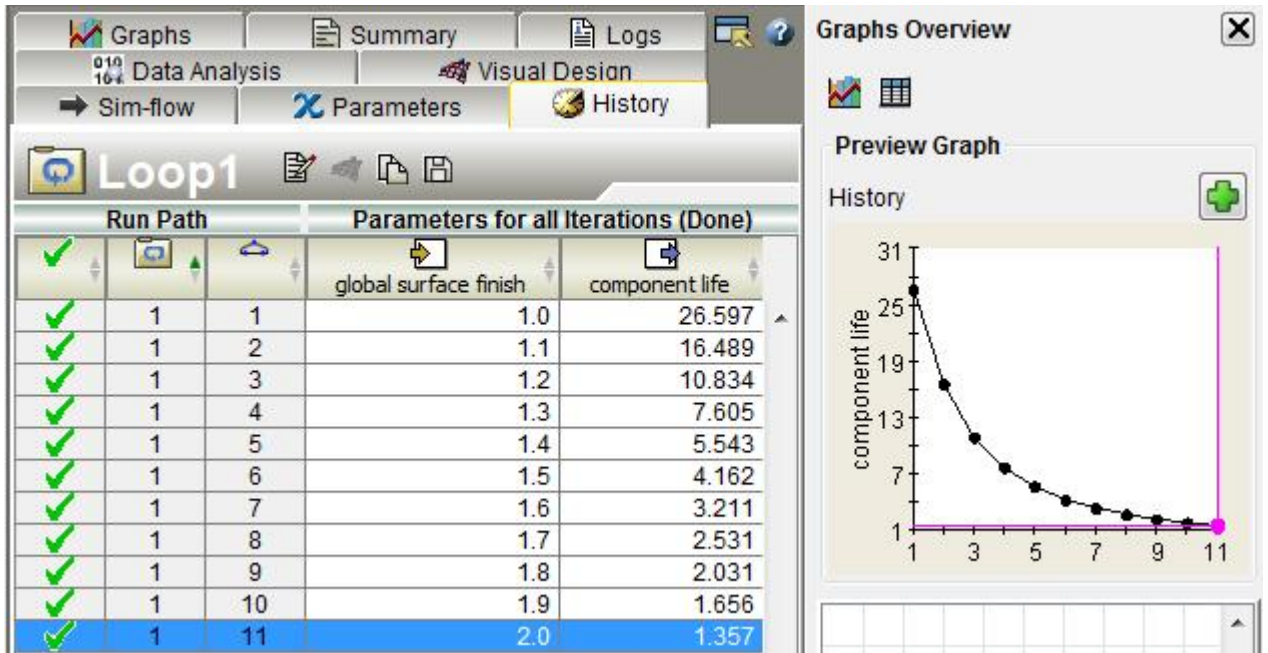

Figure 6-7: Following the results progression
- 1) Expand the **Parameters (3)** icon in the **Model Selection** tree.
- 2) Switch to the **History** tab. You will see the results of the loop runs and you can watch them update in the **Preview Graph** window to the right, as shown in Figure 6-7.